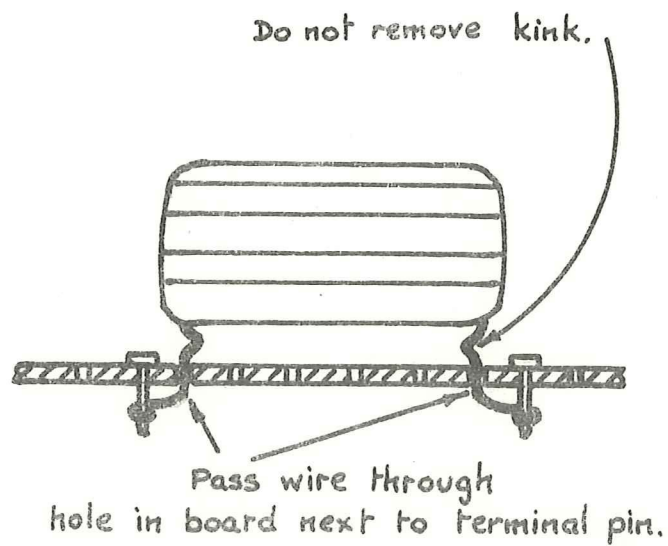

FIG. 13 - METHOD OF CONNECTING CAPACITORS
4. Diagram Fig. 13 (Refer again to Figs 9 and 10)
35. Connect a 0.1 mF capacitor (C11) between T67 and T88 ( ) see Fig. 13
34. Connect a 0.1 mF 250V capacitor (C1) between T81 and T111 (see Fig. 13) ( )
See Fig. 13